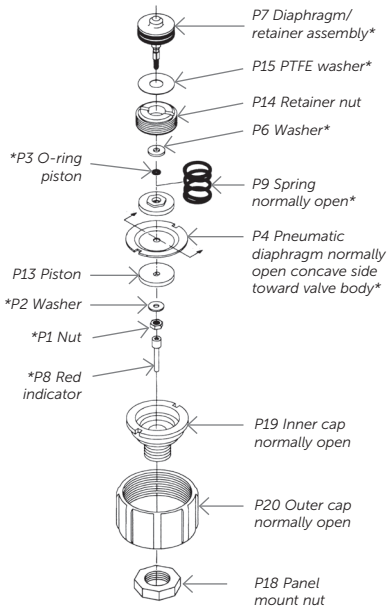
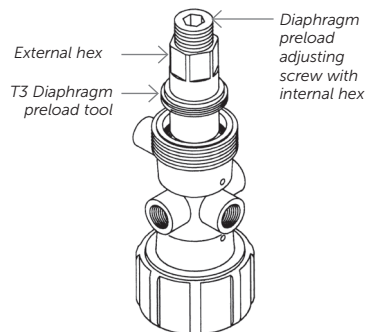

Figure 1.
Figure 2.
1. Refer to Figure 1 and begin disassembly of the normally closed operator side.
9. Refer to Figure 2, and use the 3/8" allen wrench (S6) to turn the adjusting screw on the diaphragm preload tool (T3) out 12.7 mm (1/2"). Now, place the diaphragm preload tool (T3) onto the retainer nut (P14). (See Figure 1.)
13. Put lower piston (P13) in place. Orient with the raised hexagonal surfaces facing away from the pneumatic diaphragm. (See Figure 1.)
14. On the normally closed operator side, place the pneumatic diaphragm (P5) onto the diaphragm stem with the concave side facing away from valve body. (See Figure 1.)
On the normally open operator side, place the pneumatic diaphragm (P4) onto the diaphragm stem with the concave side facing toward valve body, properly aligning locating tabs. (See Figure 1, pneumatic diaphragm shown concave side up.)
(P4) for the normally open operator side. (See Figure 1.)